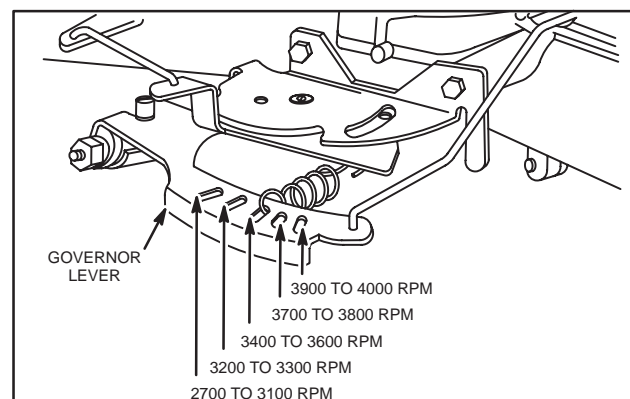

Fig. 35 – Governor Spring Position
- Check governor spring hole position for proper location for engine RPM, Fig. 35.